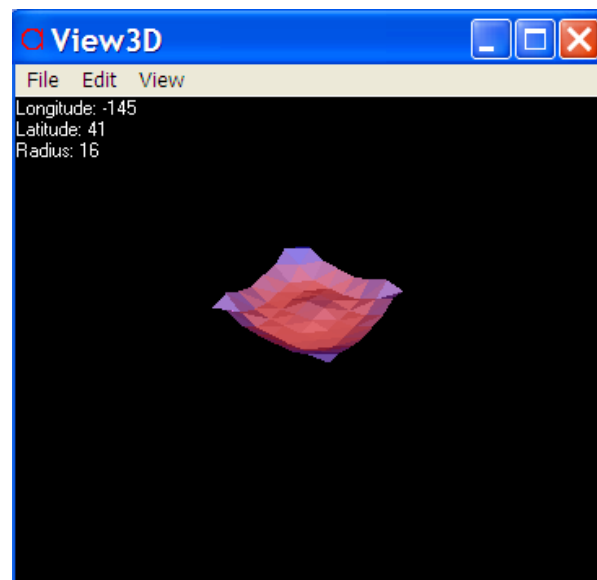

Figure 7-21: View 3D
1. In Scan, click on the desired well to view. View 3D appears (Figure 7-21).